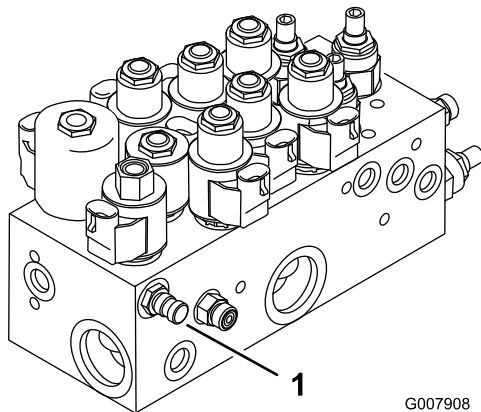
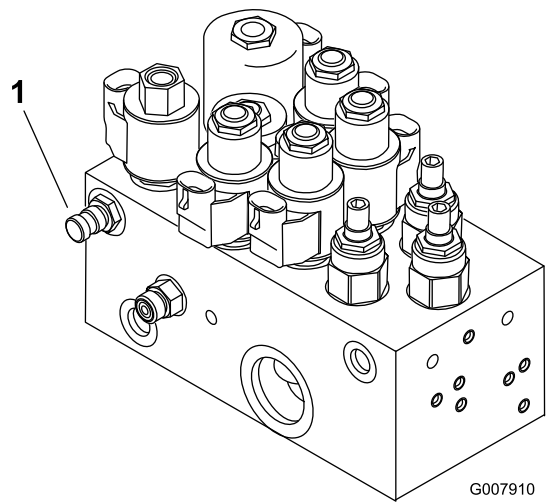

Figure 76
Figure 77
1. Test Port A (Figure 76 and Figure 77) is used to assist in trouble shooting the hydraulic circuit for the lift cylinders.